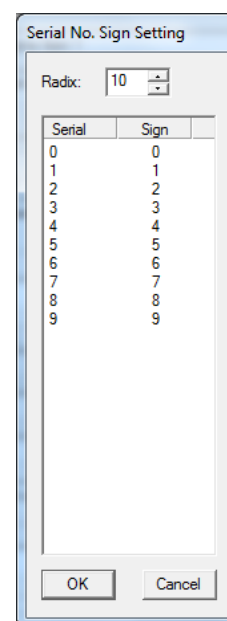

Fig. 10.03
- Base** The default setting is Decimal system. Users can select another method. If choosing "Special Carry," a setting dialog will pop up for users to modify, see Fig.10.03.